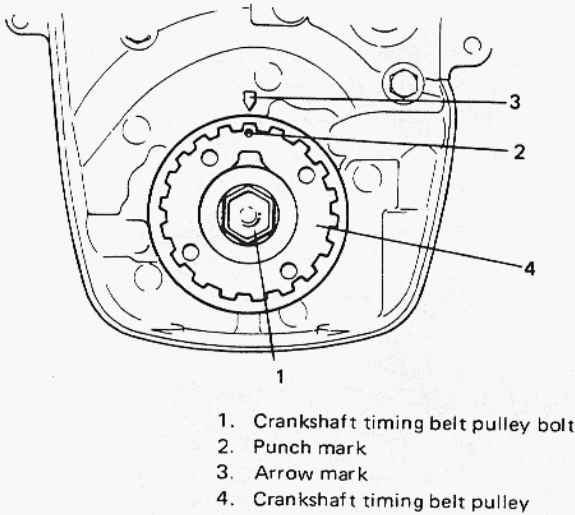

Fig. 3-6-49 Timing marks
8) Turn crankshaft clockwise, fitting 17 mm wrench to crankshaft timing belt pulley bolt, and align punch mark on timing belt pulley with arrow mark on oil pump as shown in Fig. 3-6-49.